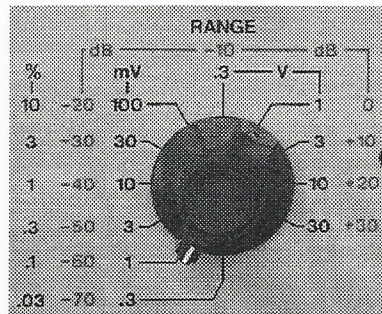

Figure 5. Range Select Switch Close-up View
- a. Verify that the **Upper Mode Select Switch** is in its most counter-clockwise position. Set the **Lower Mode Select Switch** in the **THD** or **THD/22 kHz LPF** position. The 22 kHz filter is useful when the device under test has low-power, non-harmonic frequency components, in its output above 20 kHz. These components cause abnormally high THD readings at the higher audio frequencies. They are common in Compact Disk (CD) players and other digital sources.
- f. Adjust the Range Select Switch for an upscale reading, using only the % positions to the left of the knob (refer to Figure 5 on page 11 for a close-up view of the **Range Select Switch** and its markings).